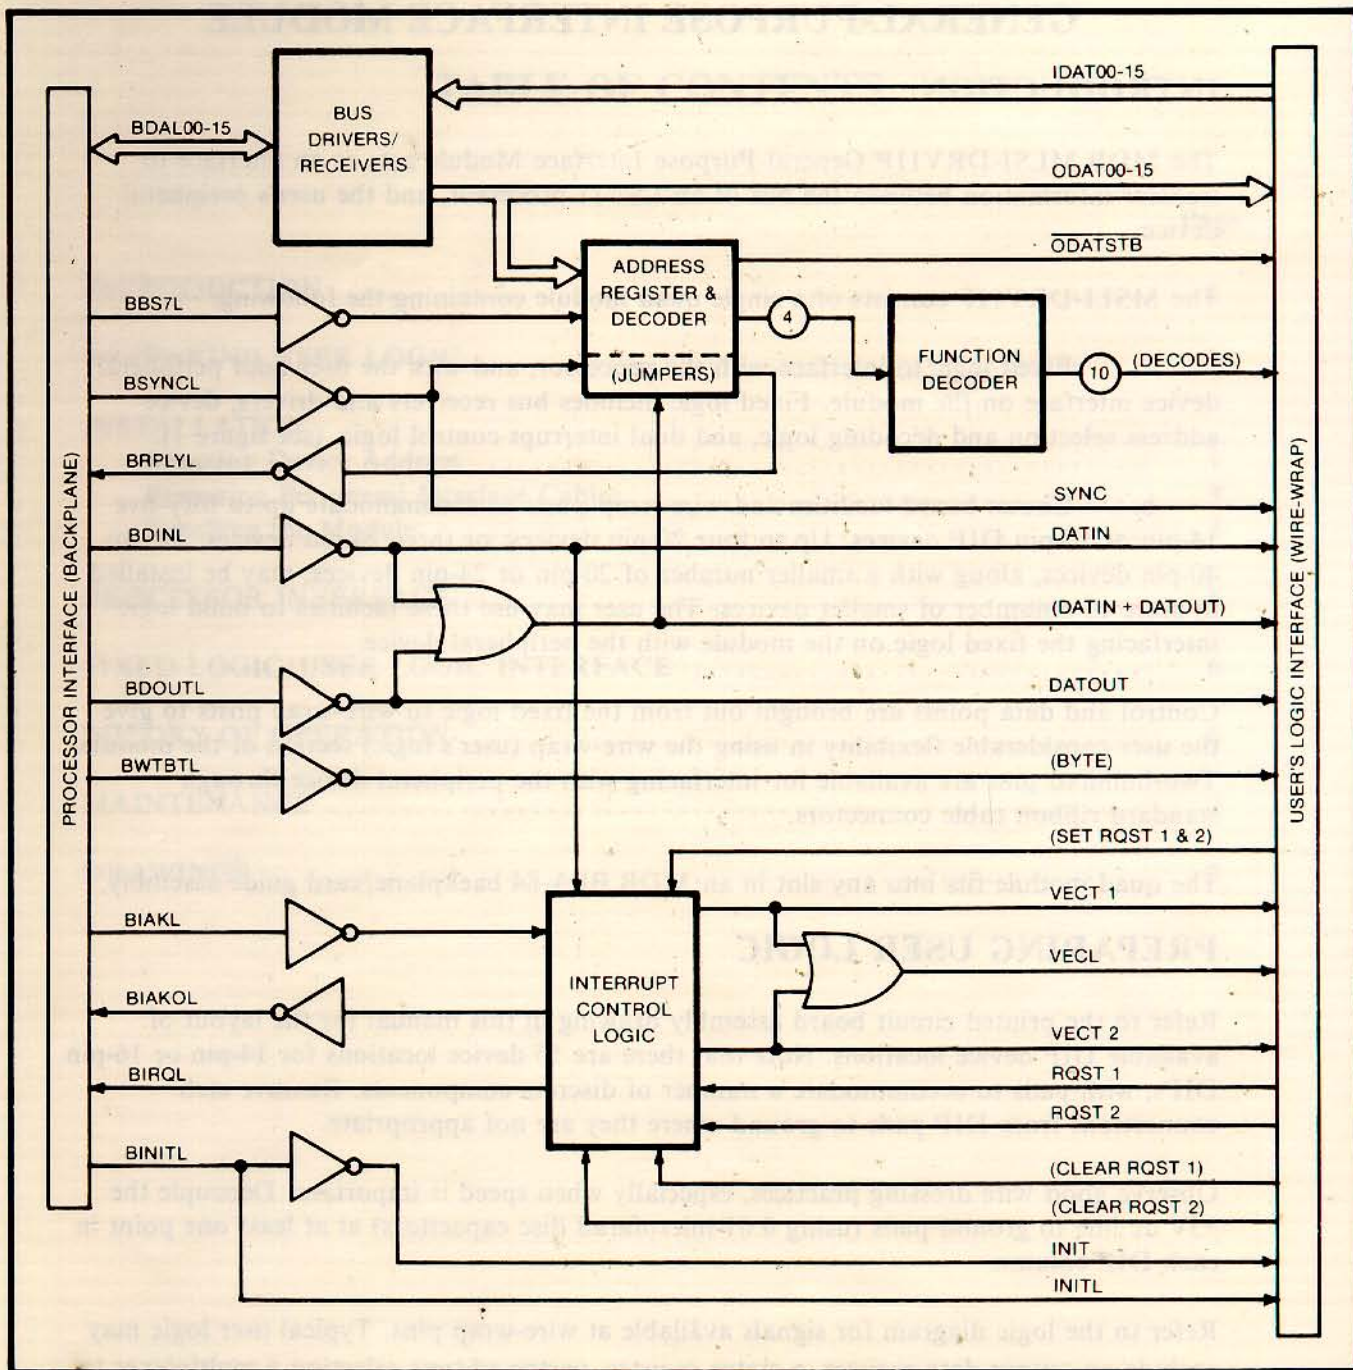

Figure 1. MDB MLSI-DRV11P General-Purpose Interface Module, Functional Block Diagram
a. Fixed logic to interface with the processor, and with the user-built peripheral device interface on the module. Fixed logic includes bus receivers and drivers, device address selection and decoding logic, and dual interrupt control logic, (see figure 1).
(Refer to figure 1, and to the logic diagram, Dwg. No. 40345).